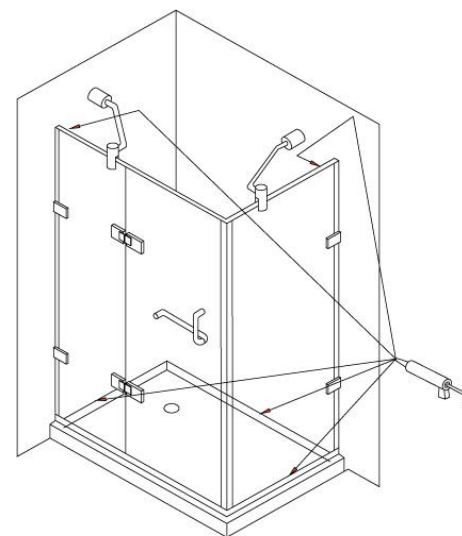

FIG.10
1. Apply clear silicone caulking to the inside between the wall and side seal strip. Repeat for the other side. [SEE FIG.10]